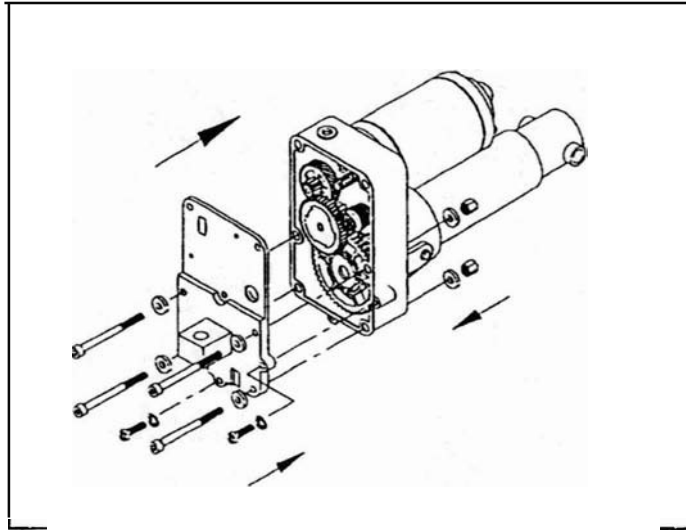

Fig.10
2. Place the top base of the elevation unit and tighten all screws. (See Fig.10).